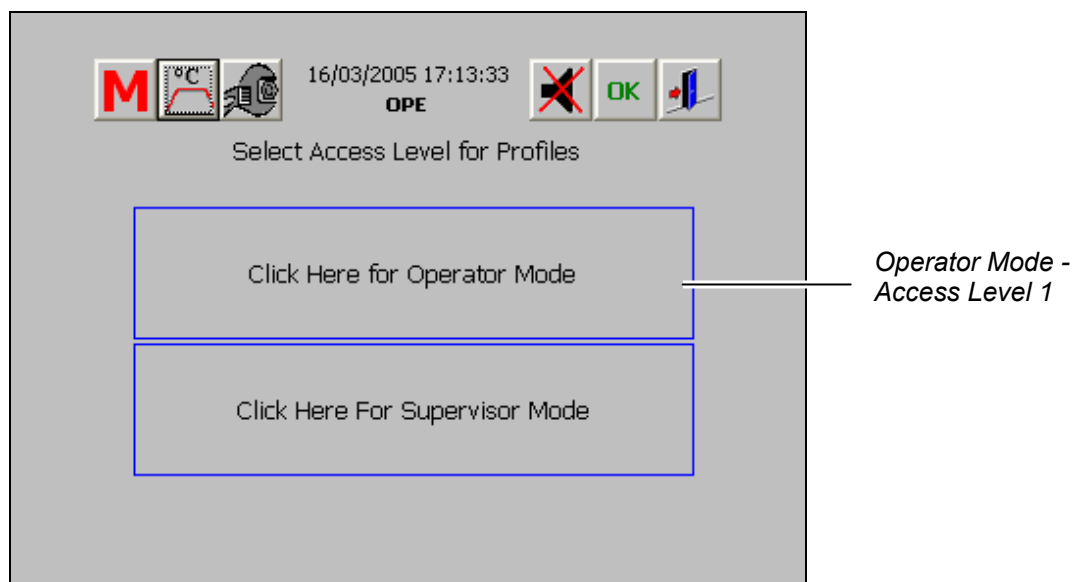

Figure 6-7 Access Level Section
2. The Access Level Selection screen appears. Click on the **Operator Mode** button (Figure 6-7).